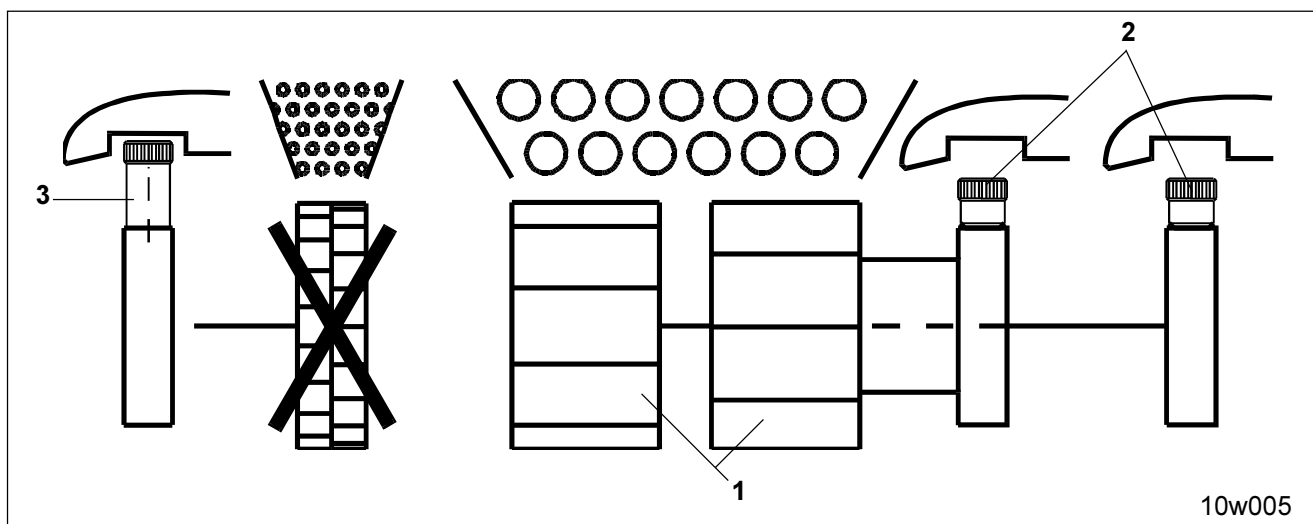

Fig. 11.5
For sowing with both metering wheels (Fig. 11.5/1)
- Drive in thumb bolts (Fig. 11.5/2) of the main metering wheels
- Drive out thumb bolt (Fig. 11.5/3) of the fine seed metering wheel.